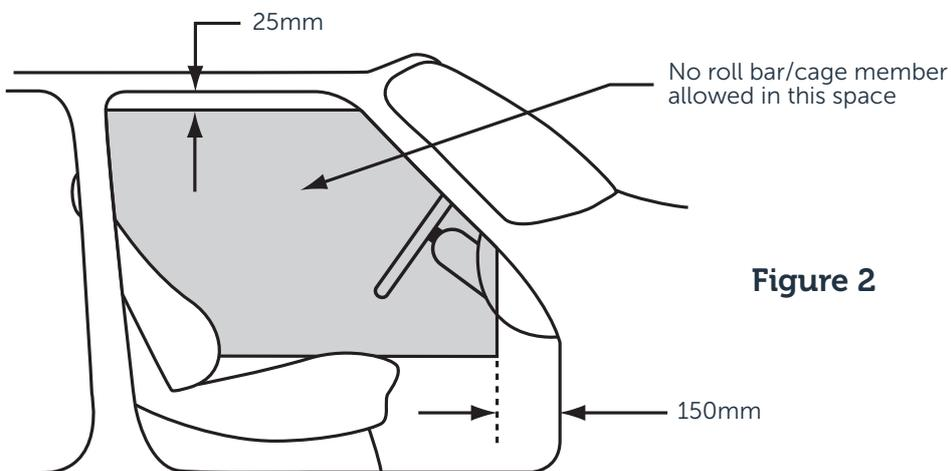

Figure 2
- The bar or cage must not cause undue obstruction to entry to or exit from any seat in the vehicle or encroach significantly into the occupant space for the driver or passenger(s); no part may pass through or across the opening of a door giving access to a seating position, except in the following spaces viewed from the side of the vehicle (see Figure 2):-